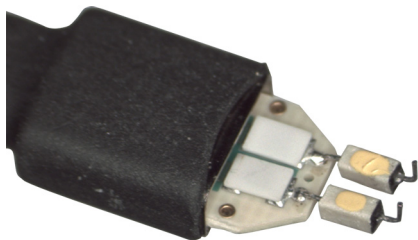

Figure 92 N2836A ZIF Probe Head
- 2 Prepare the N2836A / MX0109A solder-in probe head for connection to the PV fixture as shown in Figure 92. Shape the leads as shown.